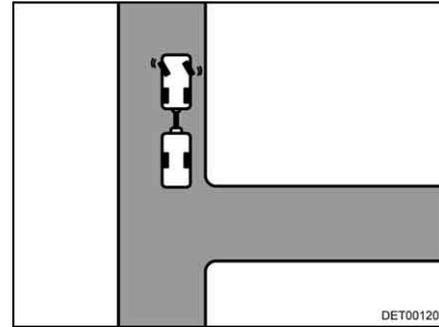

Fig. 15 Steer to the left
- Steer the stationary towing vehicle and trailer to the left (Fig. 15).